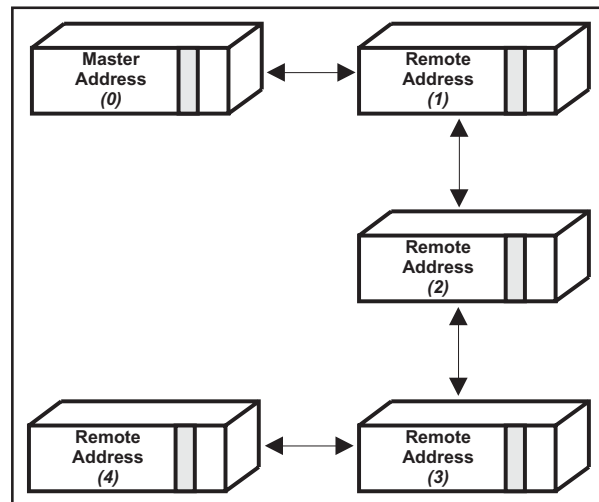

Figure 7-3. Maximum Checkback Configuration in Timed Communications Mode.
The simplest network configuration for the Checkback system comprises two terminals: one designated as the master; the other as the remote. The maximum number of terminals you can have in a network depends on their Primary Communication Mode setting. This setting may be either "timed" or "coded". With the "timed" setting, you can have up to five units in a network; one master and four remotes. With the "coded" setting, you can have up to eleven units in a network: one master and ten remotes. (see Figures 7-3 & 7-4)
Your network may contain more than two checkback terminals (i.e., one master and one remote). Among other things, this setting lets the unit know the final address to which it needs to send a checkback test request. If the primary communication mode is set to "timed", you can have up to four (4) remotes. If it is set to "coded", you can have up to 10 remotes. (see Figures 7-3 & 7-4)